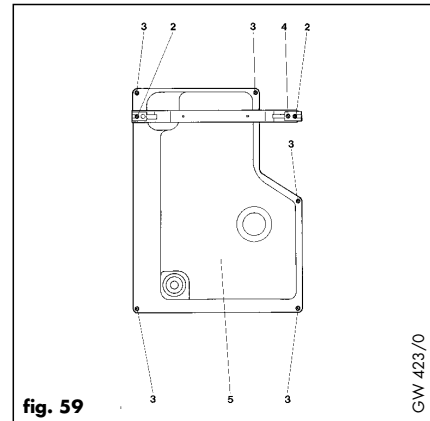

fig. 59
- Remove screws (3, fig. 58) and slacken screws (2, fig. 59).
### 7.1.5 Removal of combustion chamber cover (fig. 59).